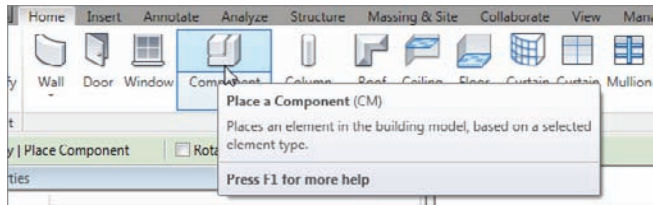

FIGURE 9.34 Click Place A Component on the Home tab
2. On the Home tab, click Component > Place A Component, as shown in Figure 9.34.